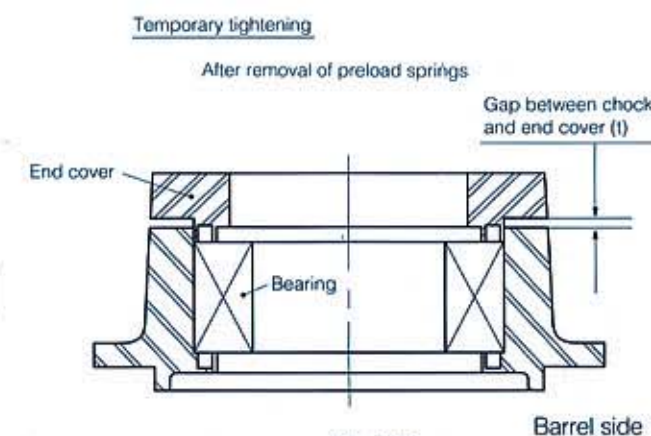

Fig. 3.36
- (1) Follow the steps from (1) to (7) of the procedure described in Section 3.4.1, but do not use the preload springs.
- (2) Tighten the end cover bolts temporarily.
- (3) Measure the clearance between the chock and end cover at four equally-divided points around the bolts and determine the average clearance (t). (Fig. 3.36)